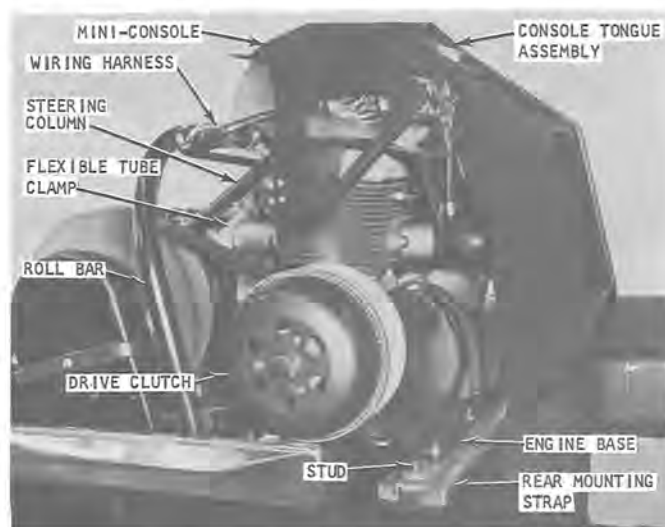

Figure 11
- Remove the six screws, washers and locknuts securing the console tongue assembly to the tool box and to the mini-console (see figure 11).
- Lift the engine until the engine mounting straps clear the studs shown in figure 11. Rotate the engine counterclockwise and remove the engine toward the rear and clear of the sled.